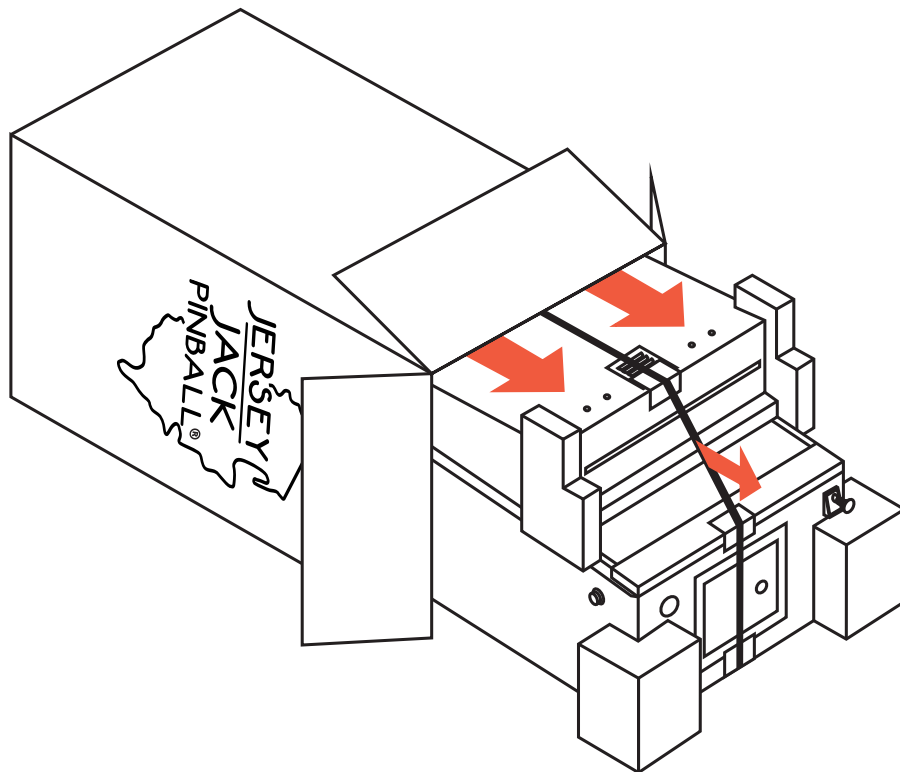

Figure A3a. Sliding the game out of the carton.
**2)** With the help of at least one other person, carefully tip the carton over and lay it on its “TRUCK THIS SIDE ONLY” side (see figure A3a). Using the nylon strap as a handle, slide the game and packing materials out of the carton.